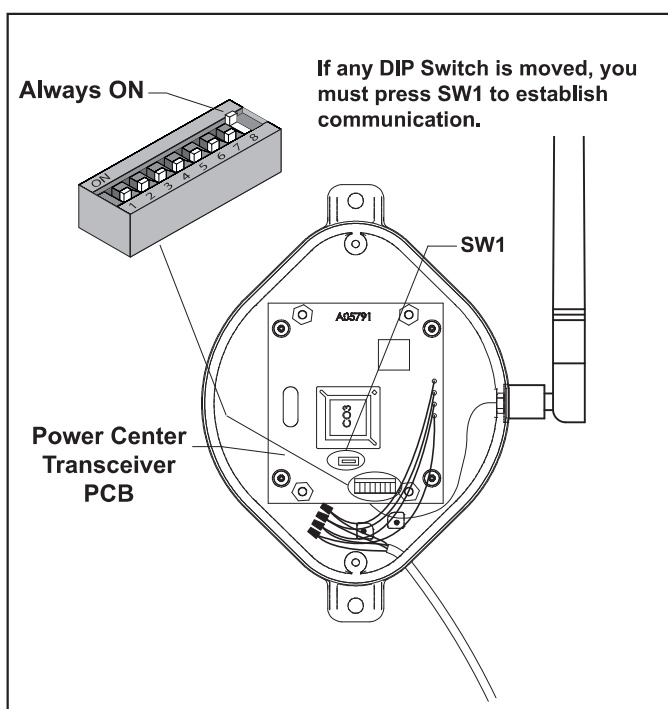

Figure 36. DIP Switch Settings at Power Center J-Box
3. At the outdoor transceiver J-box, remove the cover to expose the transceiver PCB (see Figure 36). Set the DIP switches (except #8) to the same settings as the control panel transceiver PCB that is in the house. ***Important-*** Before installing the J-box cover, press the reset button (SW1). Close the cover and test the system.